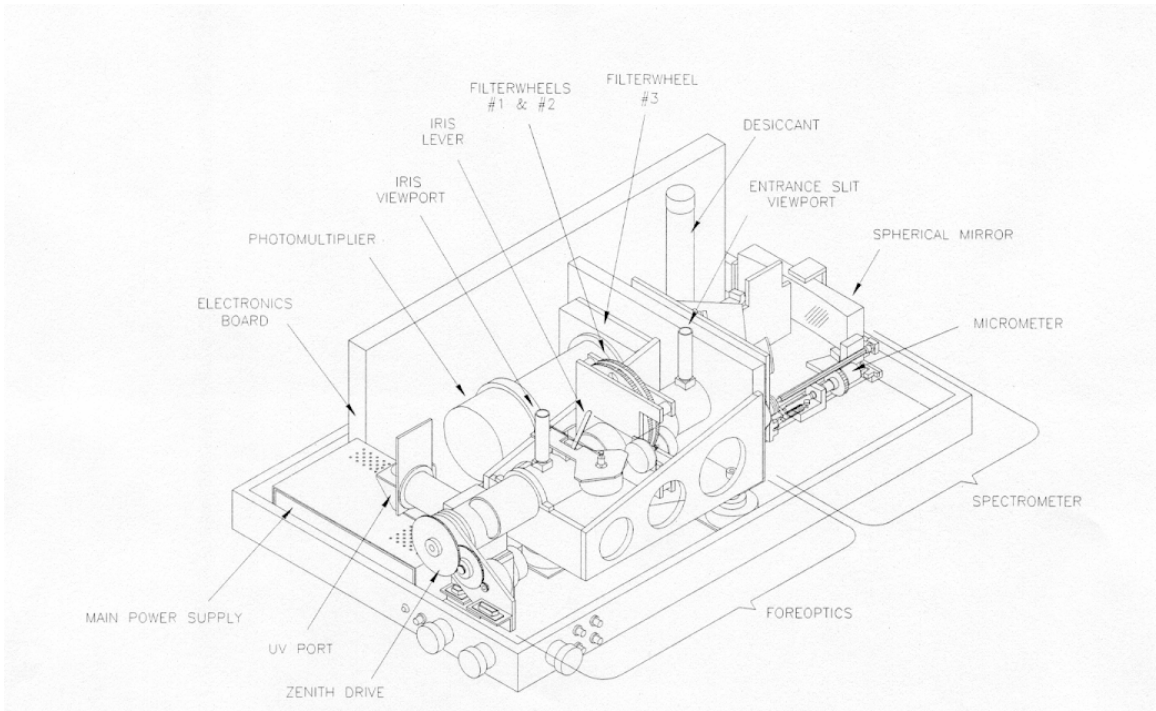

Figure 1: Brewer components
12. Locate the FW#3 housing. It is sandwiched between the spectrometers exit slits/shutter and the photomultiplier tube (PMT). Refer to Figure 1. Note the figure shows a schematic of a single electronic board instrument. The layout of a multi board instrument is similar. Locate the stepper motor for FW#3 which is attached to the FW#3 housing to the left of the PMT tube. On top of the FW#3 housing there is a small hatch secured by two 3/32" hex head screws which allows for visual inspection of the